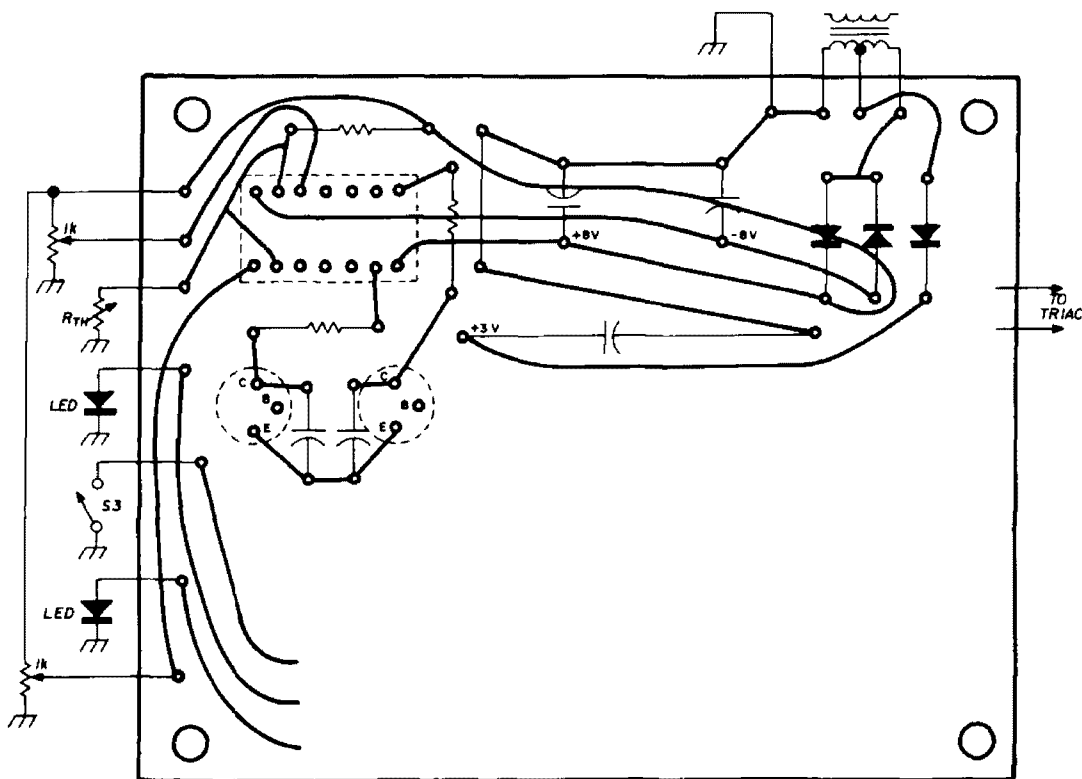

fig. 5. After choosing an initial layout begin sketching in the interconnecting wires. Avoid wiring crossovers.
Step 3 involves redrawing the schematic, replacing all symbols with full-size outlines of the components (see figs. 5 and 6). This must be done accurately; the use of graph paper with 0.1-inch grids is helpful in maintaining accuracy. The actual components should be on hand during this step so you can determine if all the parts will fit correctly.